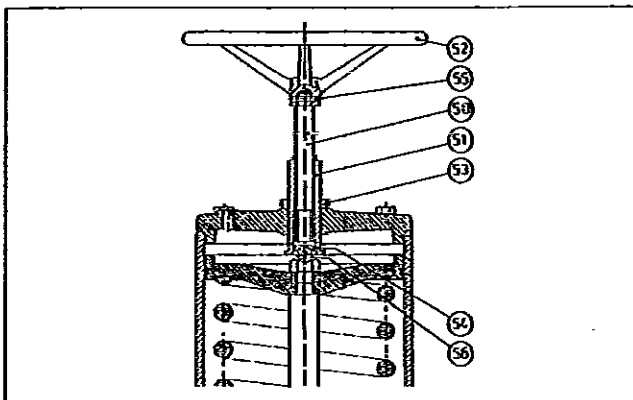

Fig. 22. BJR actuator
If air escapes between the spindle (50) and spindle nut (51), check the O-ring (54) and replace it if necessary. Also check the condition of the cylindrical rollers (56). See Fig. 22. Other maintenance as described for the BJ actuator in section 4.2.
Parts list for Fig. 22: